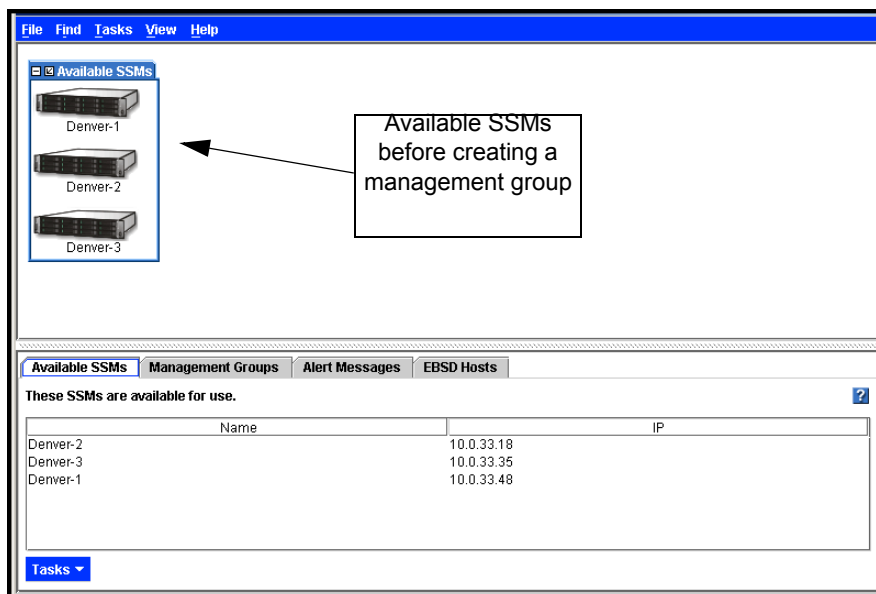

Figure 131. Viewing SSMs Before Creating a Management Group
1. Open the Console. If you have not created a management group, but you have some SSMs on the network, the Console displays those SSMs as available. See Figure 131.